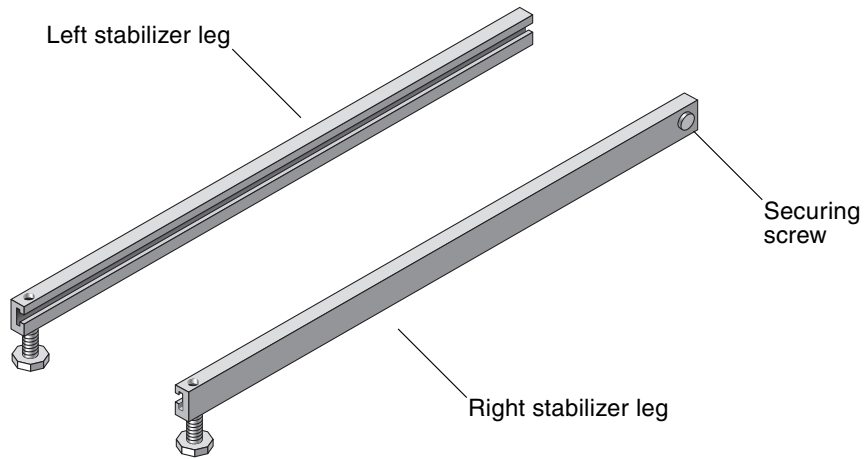

FIGURE 2-3 Stabilizer Legs
1. Use a slotted screwdriver to loosen the securing screw on the right stabilizer leg (FIGURE 2-3).
2. Insert two mounting screws to each side of the cabinet (FIGURE 2-3).